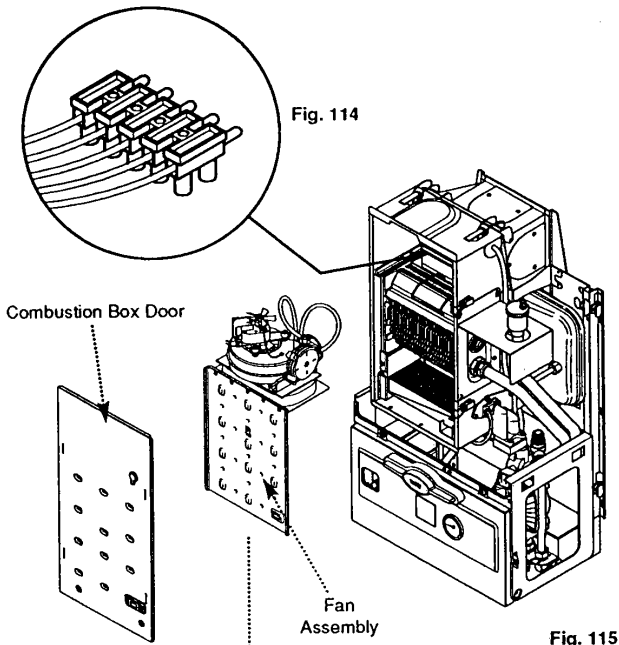

Fig. 115
2. Release the four latches holding the combustion box door. Remove the combustion box door by pulling forward from the bottom and unhooking its top edge (Fig. 115).
3. Disconnect the 5-pin pressure switch and fan plug (Fig. 114). Withdraw the fan assembly by pulling forwards from the top edge (Fig. 115).